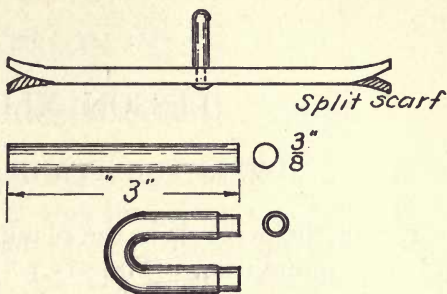

FIG. 210. — IRONS FOR RING AND STAPLE OF CLIP.
When it is riveted in place, the hook must be inside the staple. Punch two holes 1" apart and in the middle of the length, then lay aside until the other two pieces are prepared. (Fig. 210.)
4. The staple is simply tapered at each end down to  $\frac{1}{4}$ " diameter, but not to a point, and bent as shown in Fig. 210.